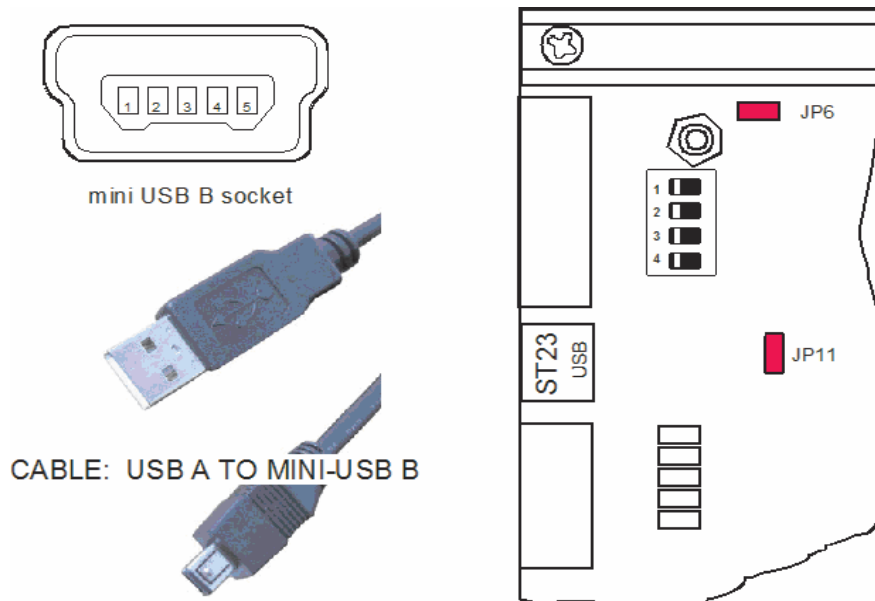

**Figure 2-7. Battery Backup for Memory**
- Connect a battery (with VCC3 nominally 3.0 V) between pins 6 (+) and 7 (-) of ST22 as shown in Figure 2-7, instead of a bridge between VCC2 and VCC3. Tolerances for the battery are given in Section 3.2.1.1.